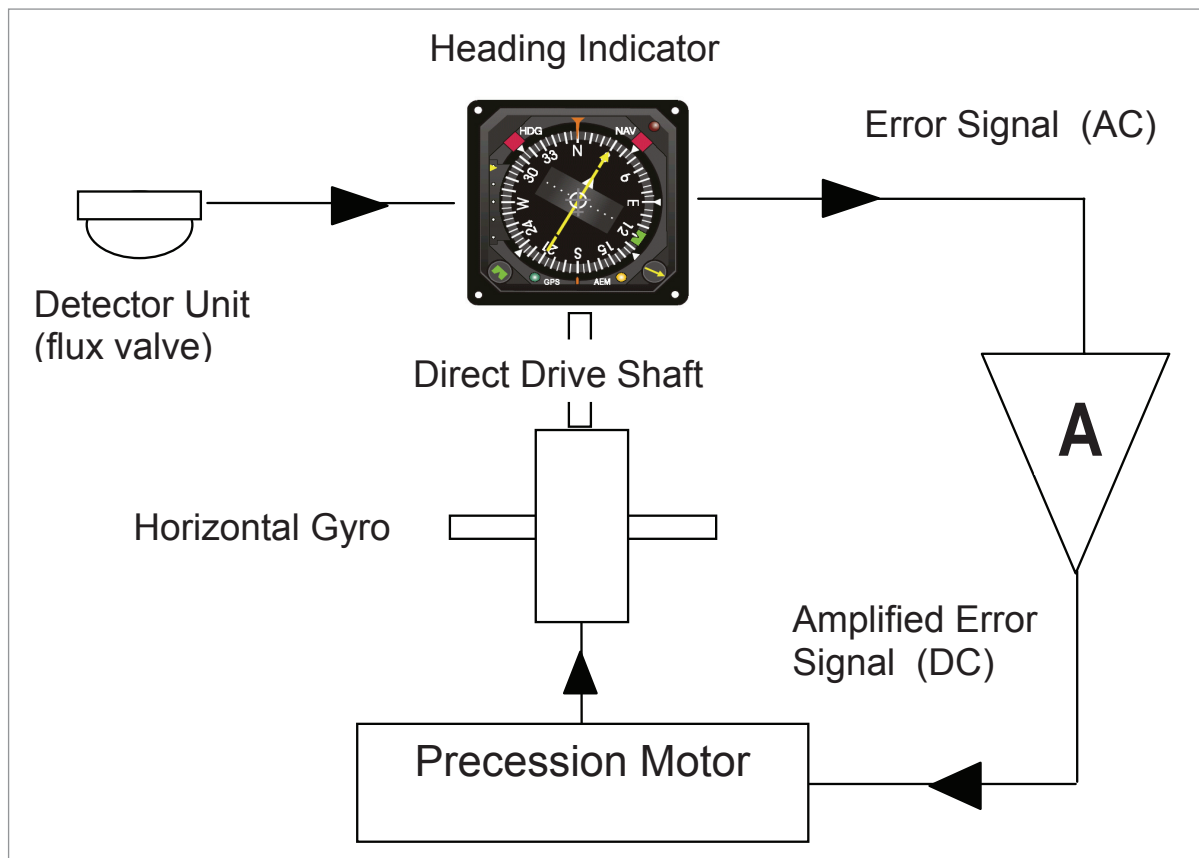

Figure 17.1 Simple signal routing
- If the two are aligned, no further action takes place. The compass card is reading the right heading. If, however, the gyro starts to drift, the drive shaft will not be in alignment with the flux valve field, and an AC error signal is generated and passed to the precession amplifier (marked with a big A in Figure 17.1), where it is amplified, phase detected, and rectified to DC.